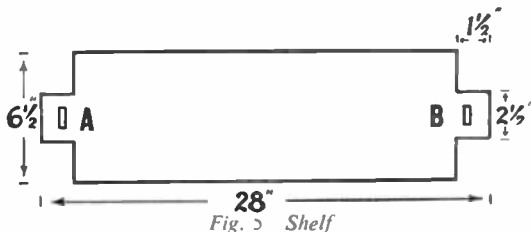

Fig. 5 Shelf
For each of the four shelves, take the ½in. wood, 28ins. by 6½ins., and cut it as in Fig. 5. The holes (A) and (B) are to receive wooden pegs. Each peg should be cut from a piece of the ½in. wood, and measures 3ins. by ¼in. Taper gradually to ¼in., so that the peg can be inserted half way in the hole (Fig. 6).